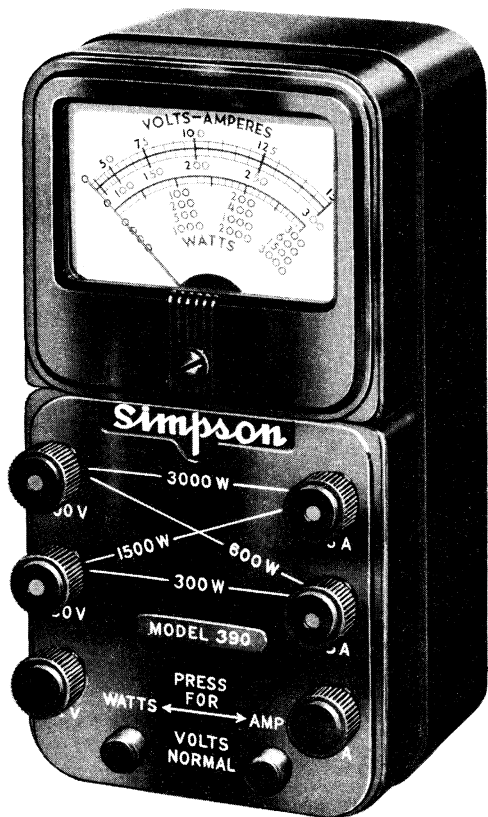

Figure 1 Simpson Model 390 Volt-Amp-Wattmeter
1. The Simpson Model 390 Volt-Amp-Wattmeter as shown in Figure 1 gives the electrical technician an AC voltmeter, DC voltmeter, AC ammeter and AC wattmeter all in one compact, convenient instrument. It is extremely rugged in construction yet of the highest quality, and will withstand full load, continuous operation. The full size 3" meter is of the dynamometer type with a moving coil armature operating within two field coils and has the typical Simpson workmanship and accuracy. The readings are clearly marked on two arcs of the scale, one for volts and amperes and one for watts. An unusual feature is the uniform wattmeter scale of equal divisions which permit more accurate readings.